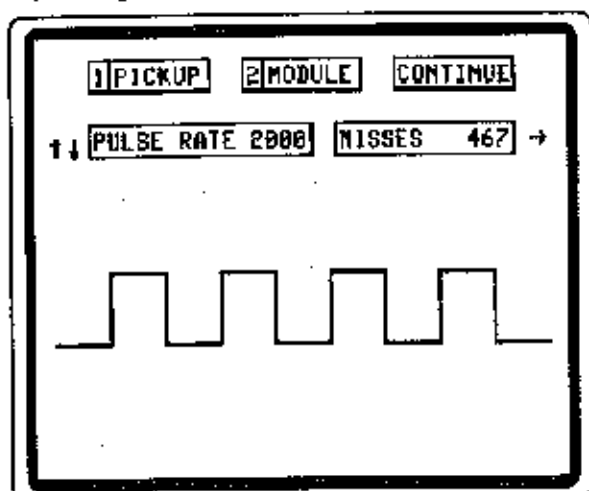

Figure 83
3. Observe pattern on screen (see Figure 83). In general, any pattern other than a straight line shows an output from the pickup coil. If there is no output signal, the test indicates that the pickup coil is bad. Before replacing module, make sure the yellow accessory lead fuse is good. VERIFY diagnosis, as recommended by manufacturer, before replacing the coil.